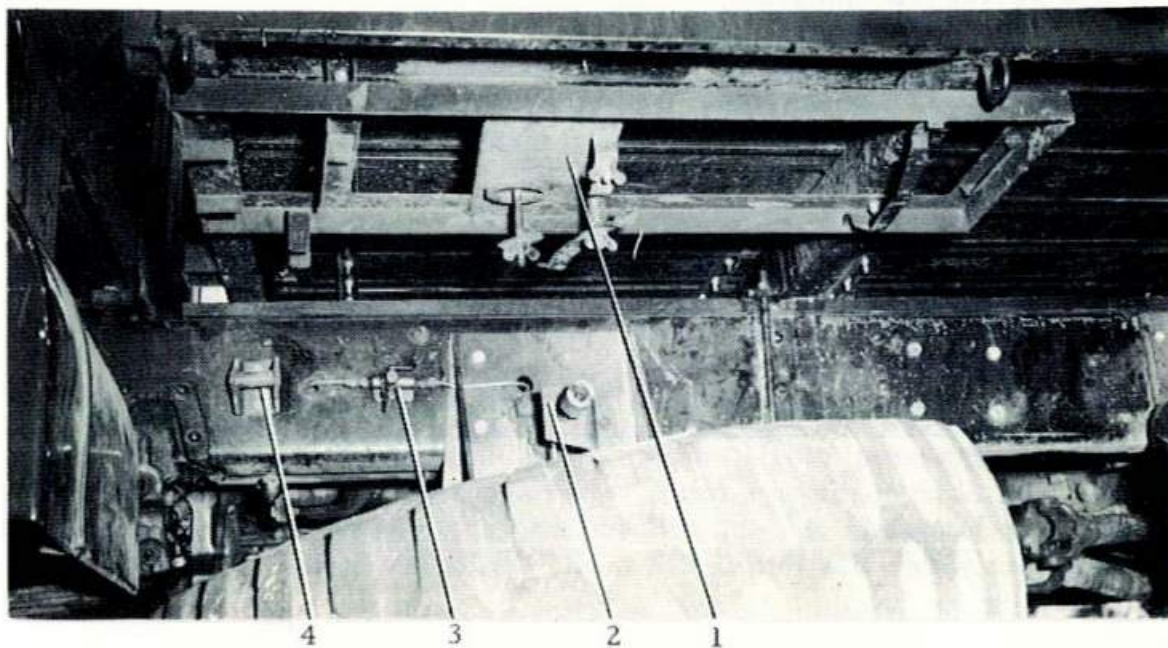

FIG 19
- b. Sides - Two fixed bar type lashing points (Item 4, Fig 19) are provided on the outside of each of the chassis side members.
95. Spare Wheel Carrier and Winch Assembly (Item 6, Fig 18 and Item 2, Fig 19). The spare wheel is stowed in an assembly located below the body immediately rear of the cab on the LH side. The assembly includes a winch used to raise or lower the spare wheel.
96. Tyre Inflation Valve (Item 3, Fig 19) This valve is located on the outer face of the LH side chassis member immediately above the spare wheel.
97. Ditching Tool Holder (Item 7, Fig 18 and Item 1, Fig 19) A holder to stow the ditching tools is located on the underside of the body floor on the LH side above the spare wheel carrier and winch assembly.